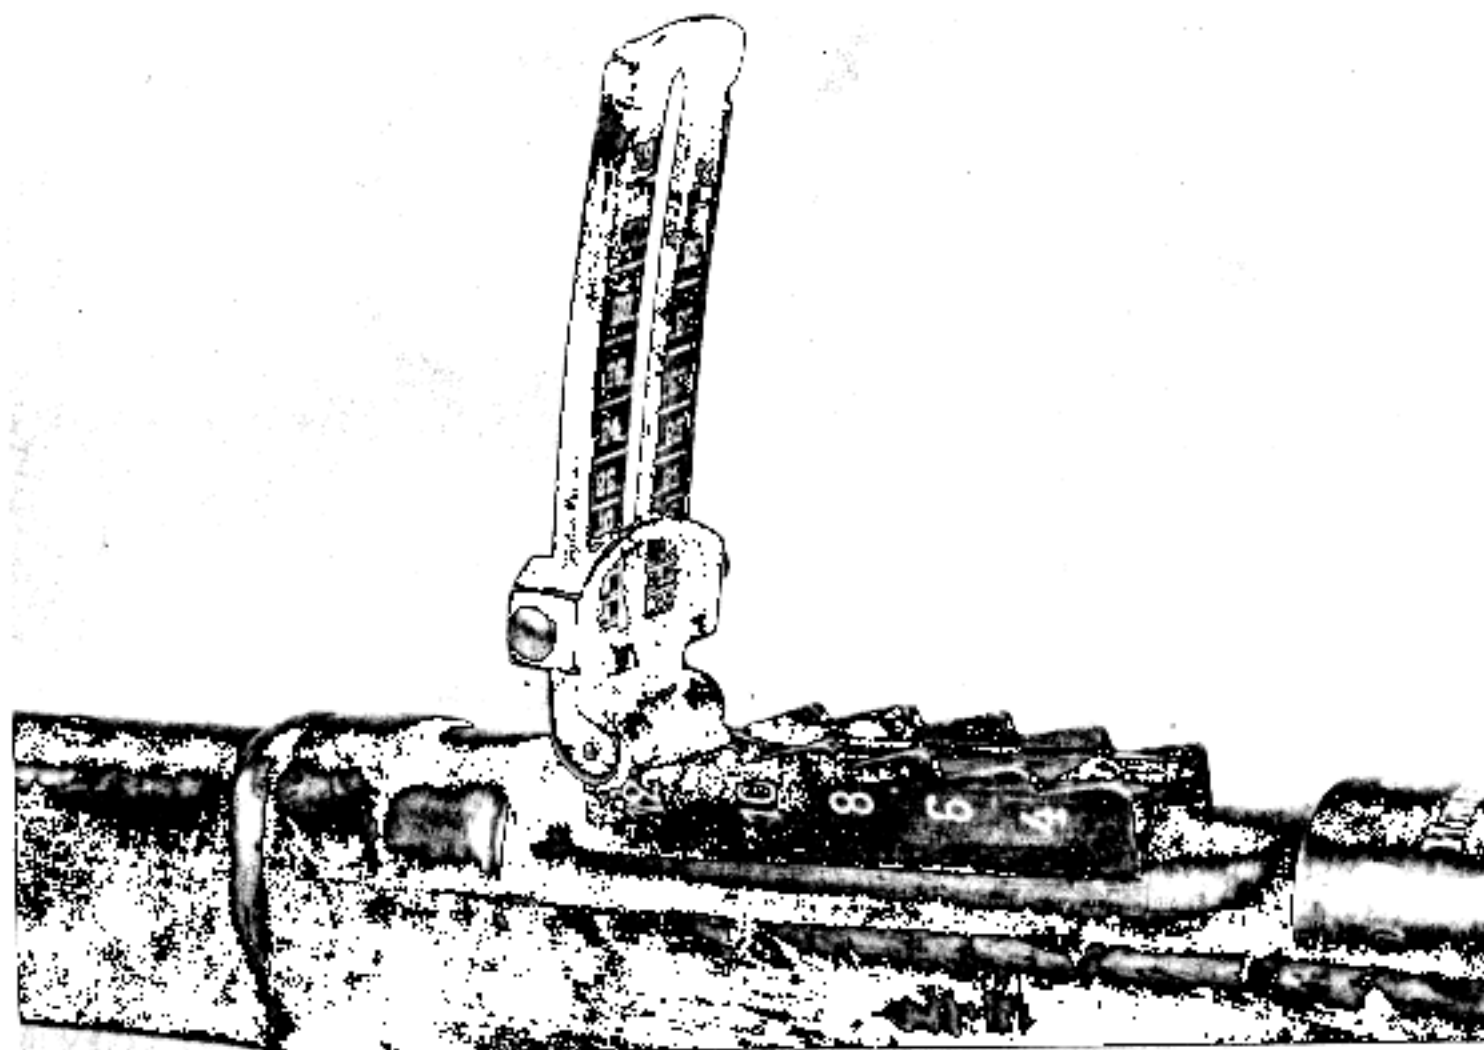

FIGURE 2. REAR SIGHT FOR RIFLE M1891.
a. This rifle has a notched-ramp leaf-type rear sight (fig. 2) which has no provision for windage. The sight is graduated from 400 to 2,200 meters (437 to 2,383 yards).